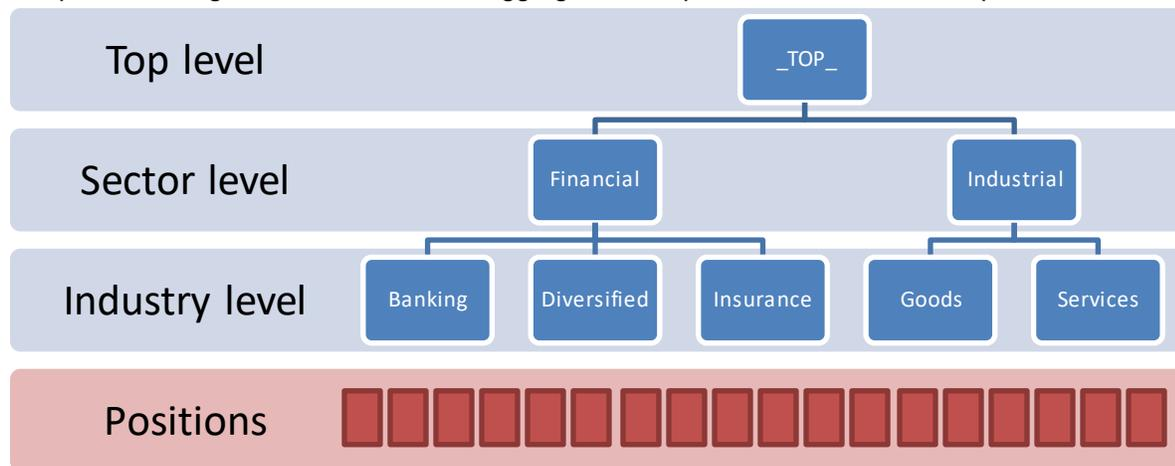

Figure 1. Demonstration of Custom Aggregation
To generalize the concepts described in the previous section, consider an example that has more than two positions. Figure 1 shows a custom aggregation of a portfolio that contains 18 positions.
- *Aggregation*: a collection of positions in the portfolio in which a classification variable equals a certain value—for example, the positions where Sector="Financial" or where Industry="Goods". Figure 1 demonstrates eight aggregations: `_TOP_` at the Top level, Financial and Industrial at the Sector level, and five at the Industry level. The positions are not an aggregation.
- *Aggregation level*: the collection of aggregations for various values of a classification variable—for example, the collection of aggregations where Sector="Financial" and Sector="Industrial". Figure 1 contains three aggregation levels: Top, Sector, and Industry. The positions are not an aggregation level.
- *Roll-up*: the process of collecting positions into an aggregation level. Figure 1 demonstrates three roll-ups: Positions to Industry, Industry to Sector, and Sector to Top.
To perform a custom aggregation, you use roll-up methods (which you specify in the `COMPILE` procedure) and a hierarchy (which you specify in the `HPRISK` procedure). The roll-up methods and hierarchy enable you to control the rolling up of each output variable at each aggregation level. The examples in this section create a custom aggregation for the portfolio (the collection of positions) and classification variables that are shown in Figure 1. Appendix 1 contains the SAS code that demonstrates the concepts and syntax that are outlined in this section.